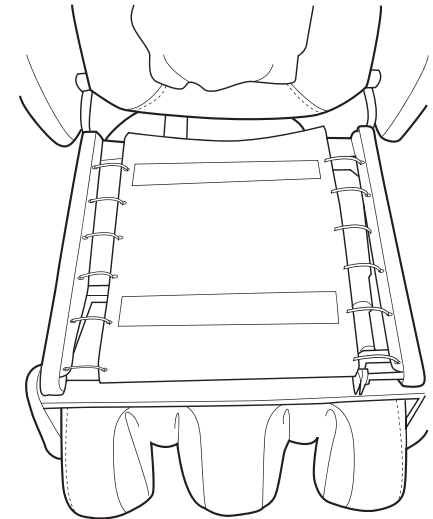

Fig.1
2. Pull up on the seat pad to remove it from the chair (Fig.1).